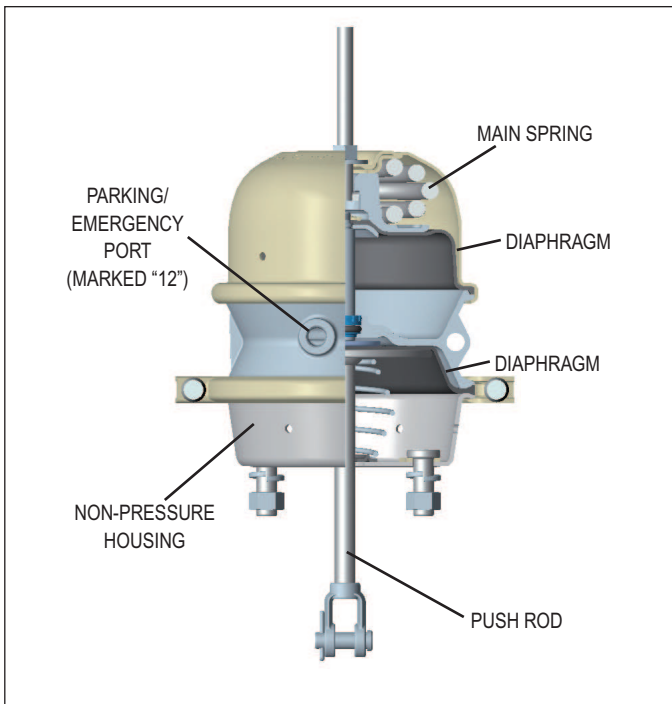

FIGURE 3 - SPRING BRAKE CUT-AWAY VIEW
6.1.3 While supporting the spring brake chamber in position, remove and discard brake chamber mounting nuts and washers (see Figure 3). Nuts and washers must not be re-used. Remove the spring brake.